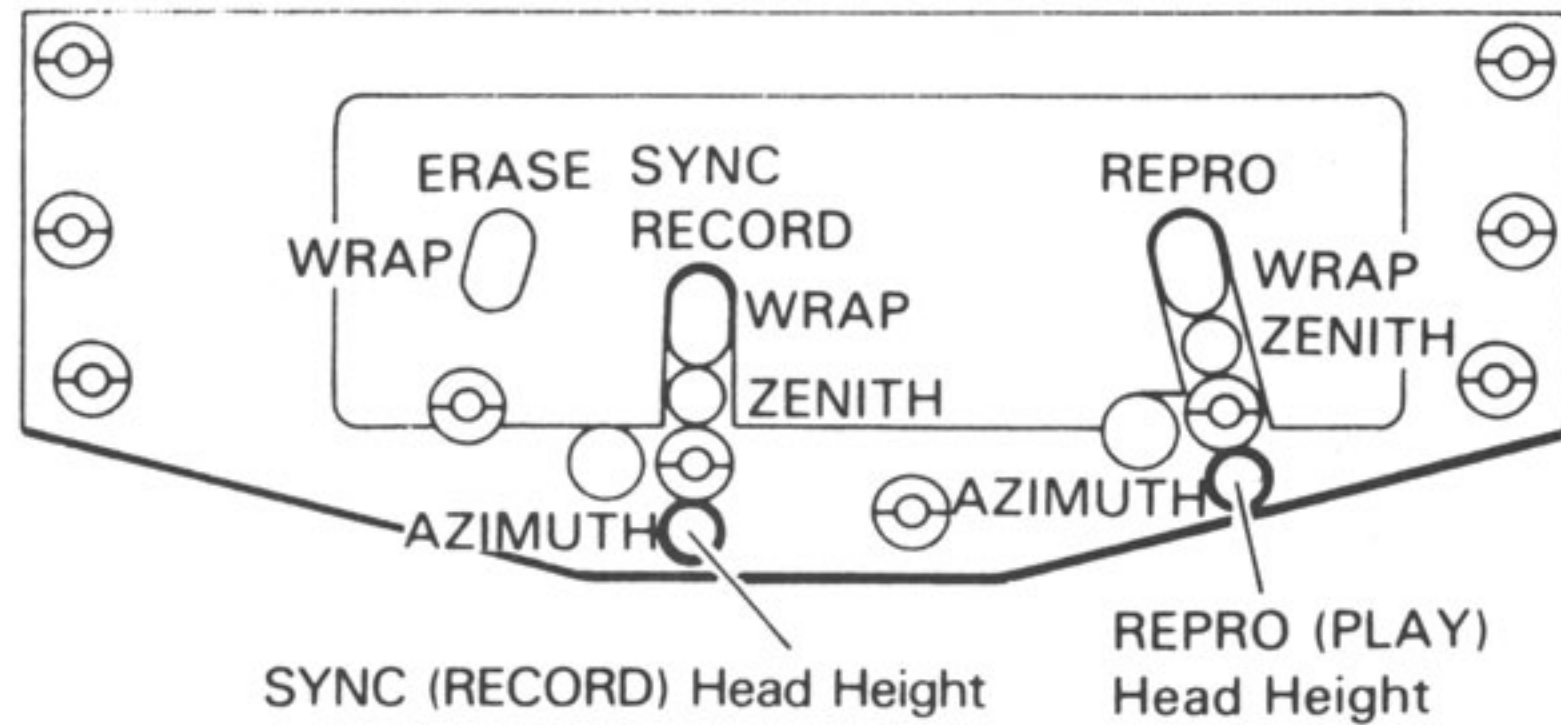

Figure 6-1. Head Adjustment Screws
7.5.3. Figure 6-1 shows the location of the head adjustment screws. The zenith, height, and azimuth adjustment screws on the headstack all require a 2mm hex driver for adjustment, while a flatblade screwdriver is used to adjust the wrap.